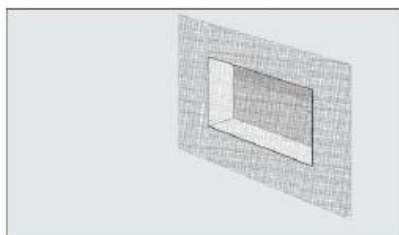

Fig. 7
Step10: Apply the 80mm Connection strip (B) to inside edges of Niche (4 sides). Press firmly to ensure total adhesion (Fig.7)